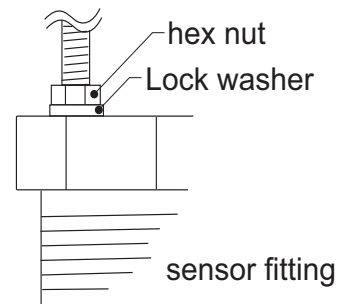

Fig. 8
- A. Thread one hex nut onto each of the three threaded rods included in package. Install threaded rod with a lock washer onto the sensor fitting. Secure rods in place by tightening each hex nut against the sensor fitting. (Fig. 8)